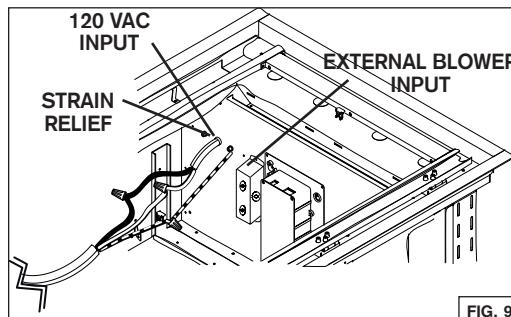

FIG. 9
3. Connect power cable using included wire connectors. Connect BLACK to BLACK, WHITE to WHITE and GREEN or BARE WIRE to GREEN. DO NOT FORGET TO CONNECT THE GROUND. See FIG. 9.